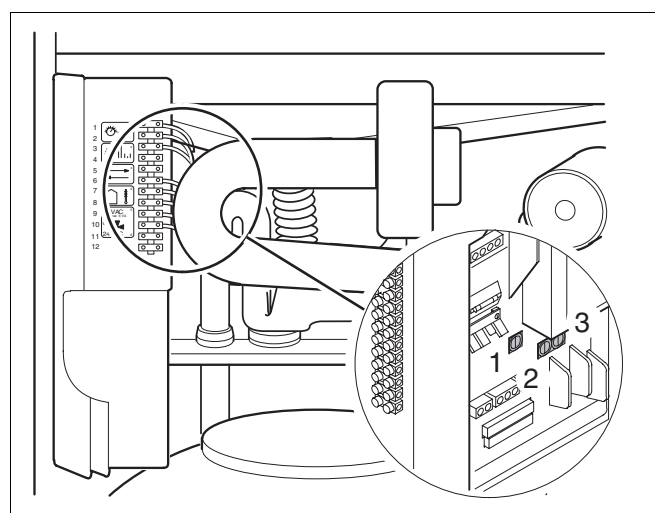

fig. 53 Checking the fuses
- Check fuse for throughput or carry out visual inspection (fig. 53, items 1, 2 and 3). If defective, fit new fuse (1.25 AT).